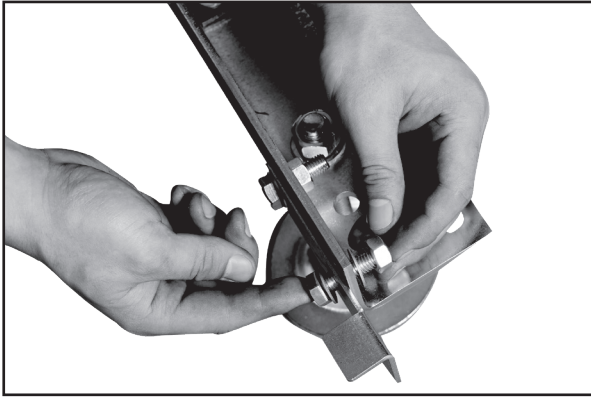

Fig. 30
Step 17: Install the Track End Stops. On each end of the Tracks, install and tighten a Track End Stop using two M10 Hex Head Flange Bolts and Locking Nuts on the inside of the track as shown (Fig. 30) and with the nuts on the inside.